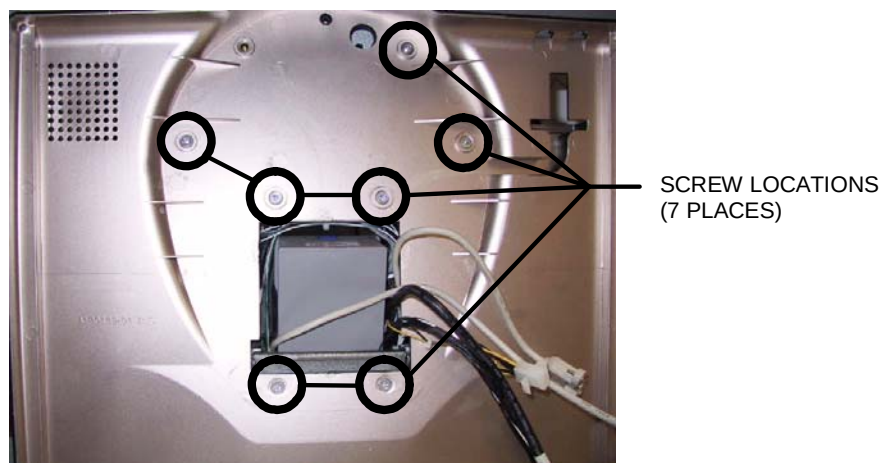

FIGURE 9 - OPEN MONITOR ASSEMBLY
11. Carefully remove the seven remaining screws that secure the monitor assembly to the unit (see Figure 9), then place the monitor assembly safely out of the way.